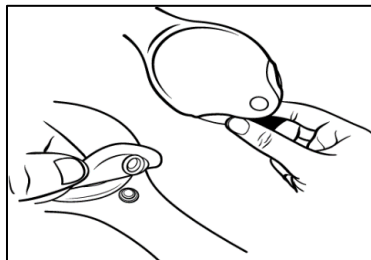

Figure 13 Remove Device
2. Pinch the device between your thumb and forefinger and pull out the device, as shown in Figure 13.